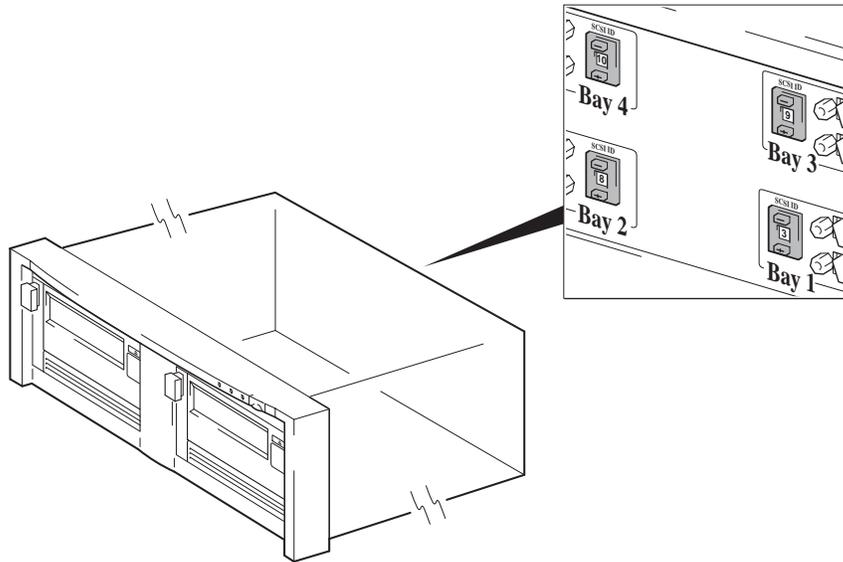

Figure 16 SCSI address switch on tape array
2. Set the appropriate switch. Figure 16 shows the address switch on the back panel of the HP Tape Array 5300.